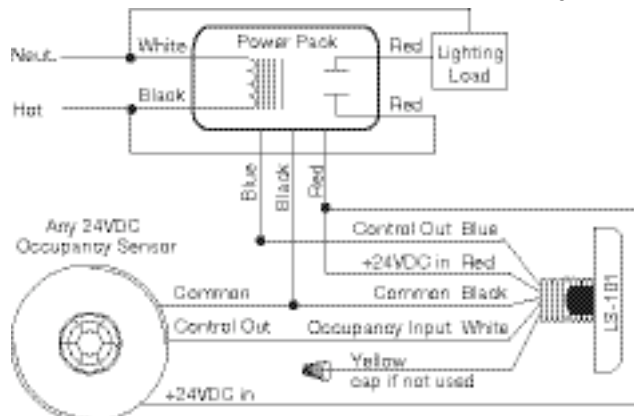

Figure 9: Occupancy sensor wiring, provides Hold ON while occupied
This feature requires that the signal wire from an occupancy sensor be connected to the LS-101. See Figure 9.
- White connects to the Occupancy Sensor output, see Figure 9.